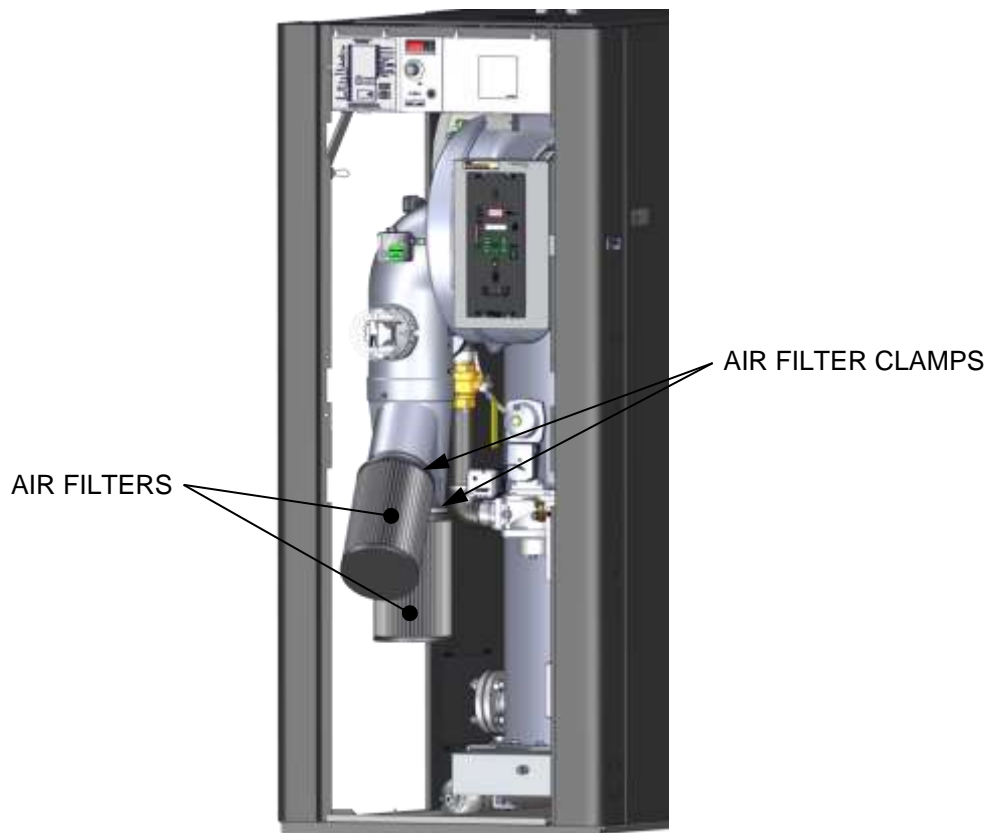

Figure 4-11: Air Filter Location
Benchmark 5000 and 6000 boilers are equipped with two air filters which should be cleaned and re-oiled every 12 months (Cleaning Kit P/N **58041**) and replaced every 24 months (P/N **88014**). The air filter is located at the air fuel valve inlet, as shown in Figure 4-11.
3. Refer to Figure 4-11 and locate the air filters attached to the WYE duct connected to the air/fuel valve inlet.